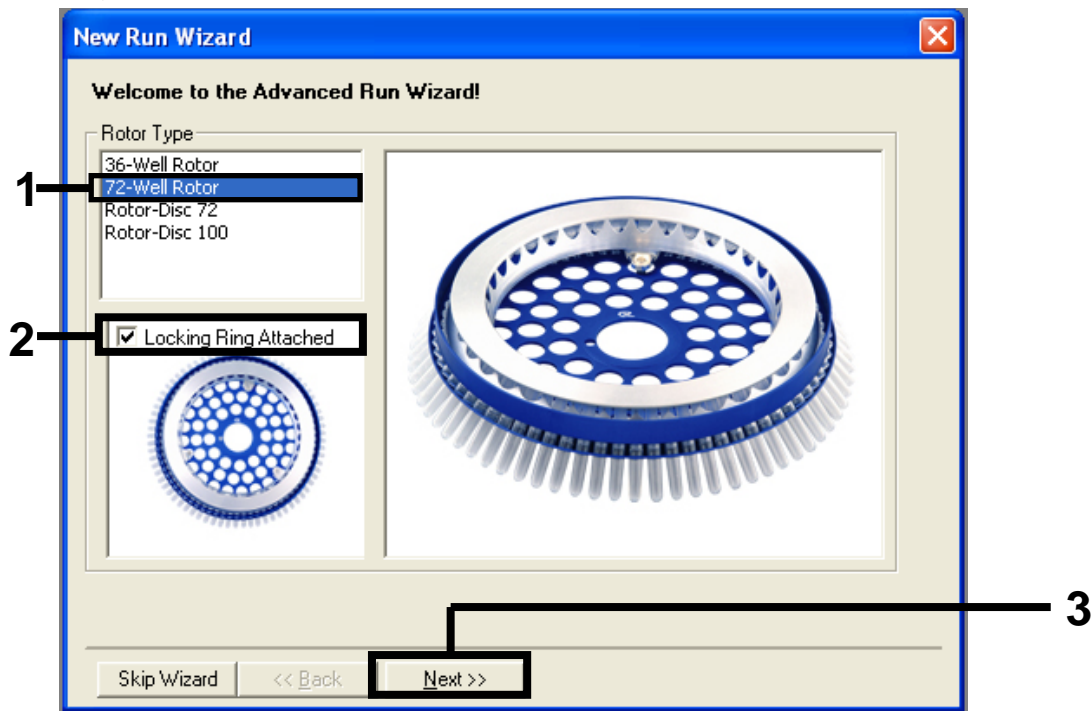

Figure 9. The “*New Run Wizard*” dialog box. 1 = *72-Well Rotor* selection, 2 = Check box “*Locking ring Attached*”, 3 = “*Next*” button.
3. Select *72-Well Rotor* as the rotor type. Confirm that the locking ring is attached and check the “*Locking Ring Attached*” box. Click “*Next*” (Figure 9).